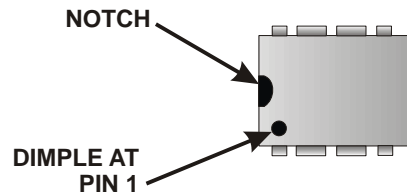

Figure 11. IC Alignment.
- Identify the end of U3 where pin 1 is located. It will have a notch, a dimple, or both at this end (see Figure 11).
Identify the end of the IC where Pin 1 is located. It will have a notch, a dimple or both at this end (see Figure 11).